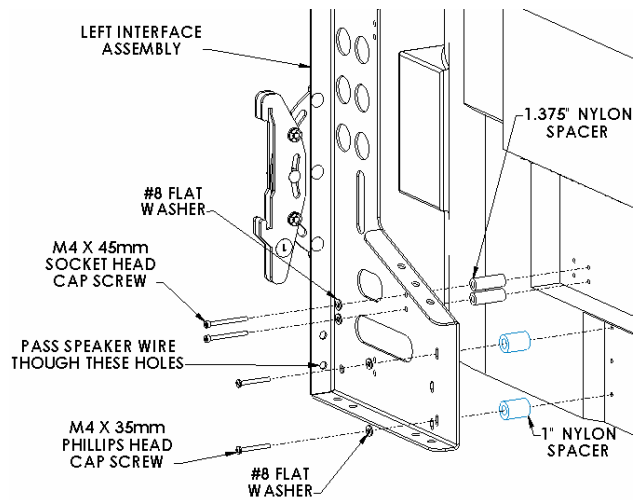
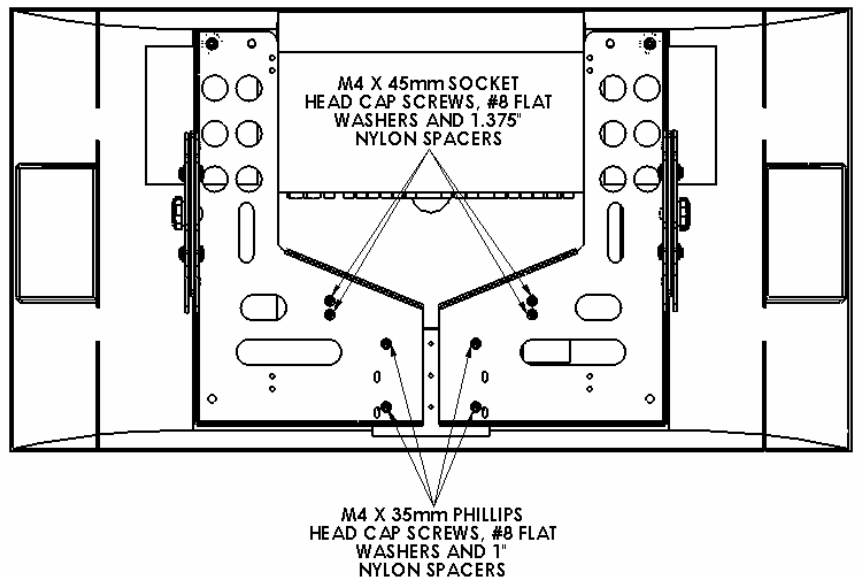

Figure 3. 30" Interface Bracket Attachment
Figure 4. Attach 30" Interface Bracket to Display
2. Using M4 screws (40 and 60) and Nylon spacers (70 and 90), attach interface brackets to the back of the LCD display (see Figure 3 and Figure 4).